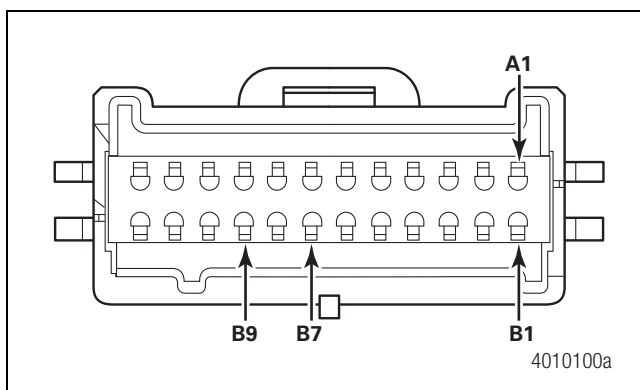

Figure 2.8
1. Disconnect the vehicle side of the LDW connector and measure for voltage from B7 to the ground terminal B9. Figure 2.8.